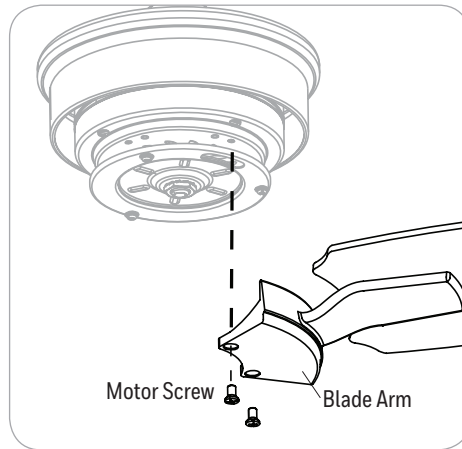

Figure 5.5
5. Remove the 10 motor screws from the underside of the motor assembly. Then, install the blade arms to the underside of the motor assembly using the ten previously removed motor screws (Figure 5.5).